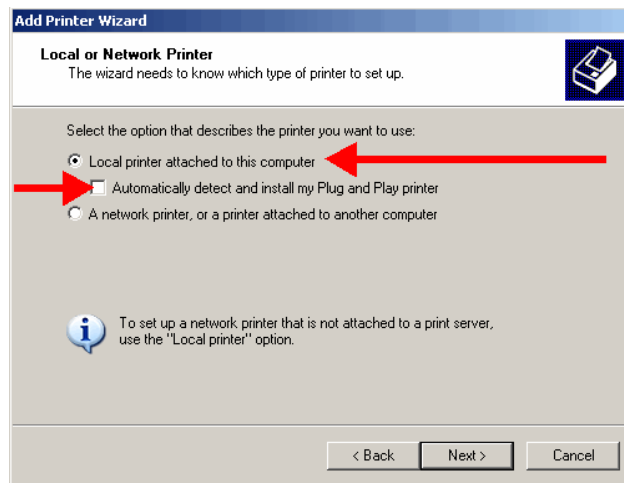

Figure 3-5
3.2.5. Choose the *Local Printer* option, but **UNCHECK** *Automatically detect and install my Plug and Play printer*. (Figure 3-5)